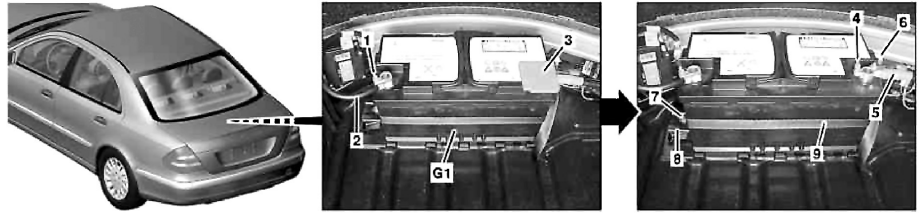

Fig. 1 Primary battery removal
4. Loosen nut (1), and remove ground line (2) from battery (G1), Fig. 1.
6. Remove positive terminal cover (3), Fig. 1.
7. Loosen nut (4), and remove positive line (5) from battery (G1), Fig. 1.
8. Pull off vent hose (6), Fig. 1.
9. Remove bolt (7), and remove bracket (8), Fig. 1.
10. Loosen retaining strap (9), and take battery (G1) with carrying yoke out of trunk, Fig. 1.
7. Install ground line to battery. Ensure that ground line (2) is seated tightly, otherwise terminal may be damaged, Fig. 1.
9. Install ground line (2) to battery (G1), **Fig. 1**.